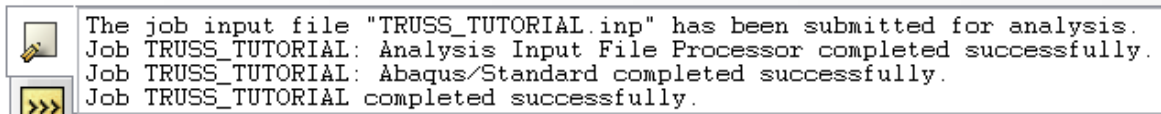

Figure 35. Status Window
- The model will now be submitted for analysis by Abaqus and the progress can be viewed in the status window at the bottom of the screen (Figure 35).